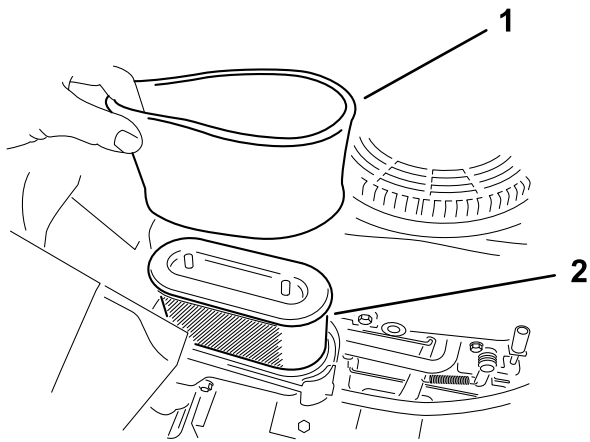

Figure 28
5. Carefully remove the foam and paper filter elements from the air-cleaner housing (Figure 28).
Note: If it is very dirty, replace the paper element (Figure 28).
1. Install the foam filter onto the paper filter (Figure 28).